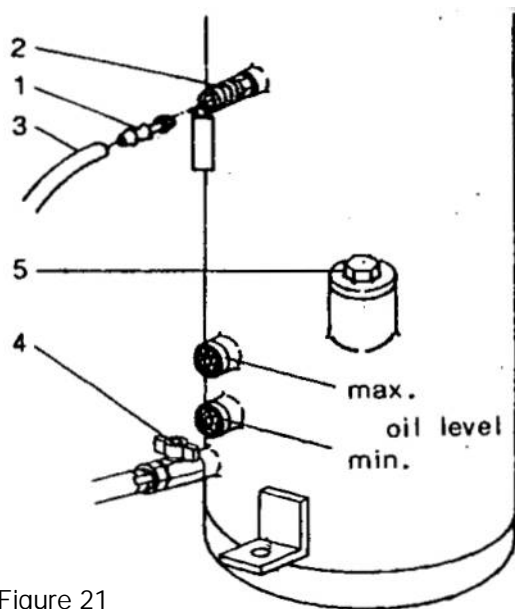

Figure 21
- Hook hose (3, figure 21) of other pressure source to socket (1, figure 21) onto tank and pressure feed.
- Slowly open tank drain valve (4, figure 21). The pressure remaining in the tank will cause the oil to flow.
- Oil adding see item 6.5 and 6.5.1.